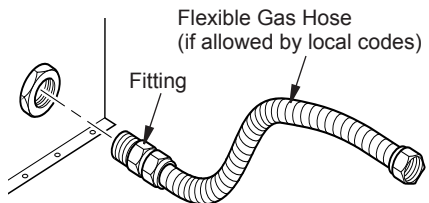

Figure 11 - Attaching Flexible Gas Hose to Heater
1. Apply pipe joint sealant lightly to male threads of the fitting to be threaded into gas regulator. Connect approved flexible gas hose to gas regulator of heater (see Figure 11).
4. Disconnect gas line from heater base as shown in Figure 11, page 13.